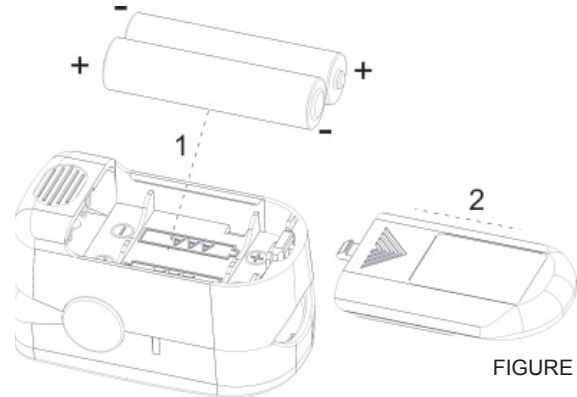

FIGURE 2
- Prior to initial use, remove battery cover and install 2 AAA batteries as indicated in Figure 2. Note: battery polarity must be correctly installed, otherwise damage to the device is possible.